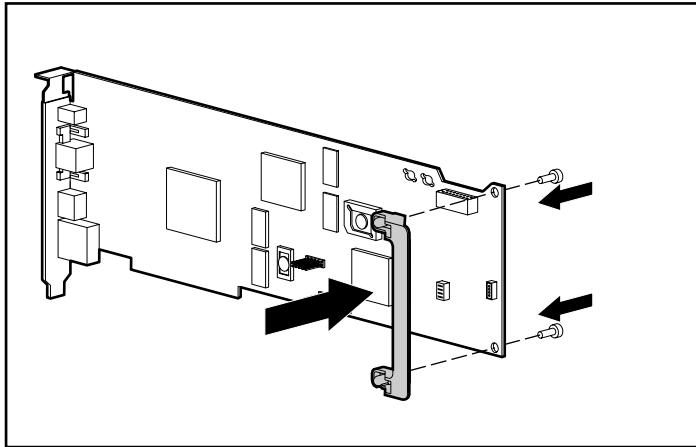

Figure 2-1: Installing the PCI board extender bracket
CAUTION: The screws shown in Figure 2-1 are self-tapping and some amount of force is required for installation. Caution is required to prevent damage to the RILOE II.
1. Hold the board so the side connector bracket is to your left and the board edge connector is down, as shown in Figure 2-1.